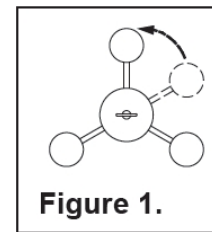

Figure 1.
2. If SUPPORT ARMS on FIXTURE ASSEMBLY are collapsed when shipped, Carefully separate ARMS by gently and evenly spreading them apart. See Figure 1.
4. Locate the CROSSBAR and secure to JUNCTION BOX with (2) JUNCTION BOX SCREWS. Thread LOCK NUT A and VIBRATION PROOF WASHER A on top end of the NIPPLE. Thread the NIPPLE into the center of the CROSSBAR. Locate LOCK NUT B and thread onto bottom end of NIPPLE. Tighten LOCK NUT A against CROSSBAR with pliers until snug.